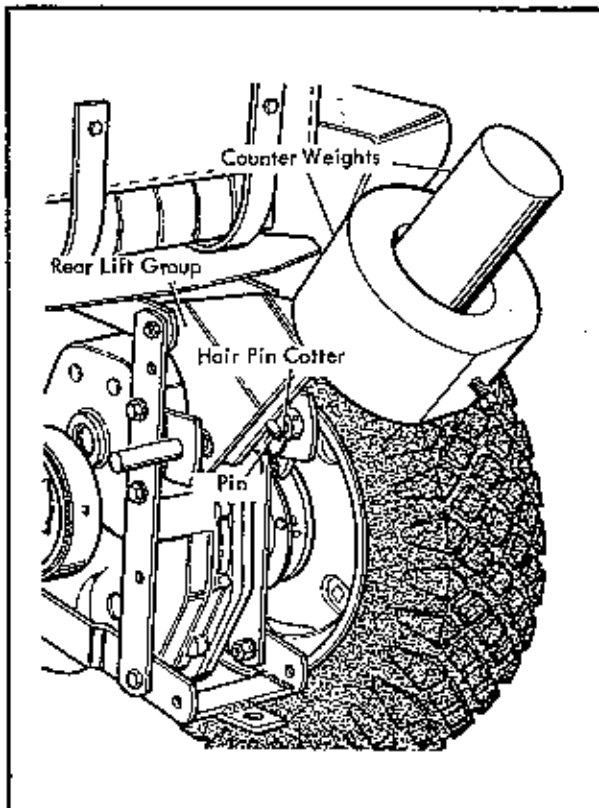

Fig. 11
5. To counter balance the weight of the snow plow, weights are available for mounting to the rear lift assembly. When these weights are in place, they provide sufficient counterbalancing to allow the plow to be raised or lowered with ease. See figure 11.